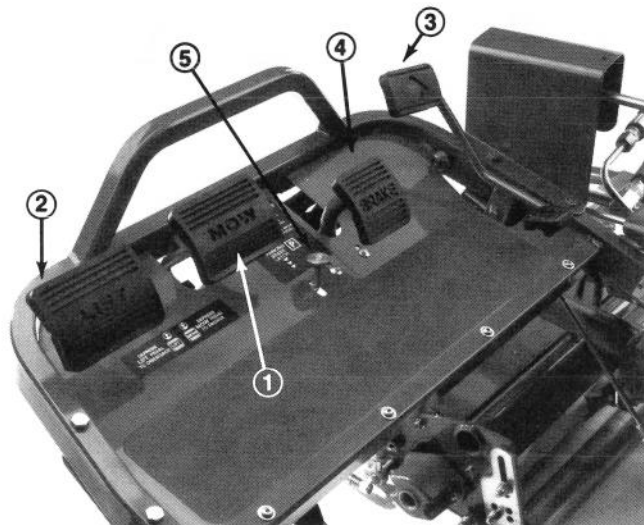
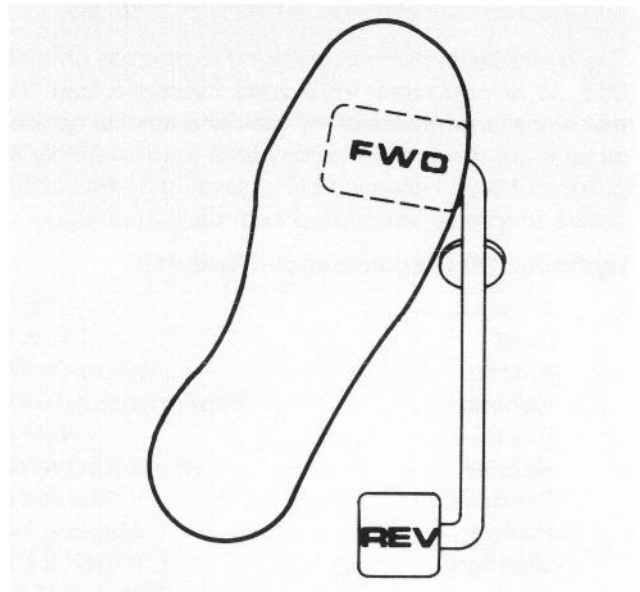

Figure 14
Figure 15
**MOW PEDAL** (Fig. 14) – Depressing Mow Pedal FULLY during operation lowers the cutting units and starts the reels. The Mow Pedal will stay depressed due to detent action of the valve bank during operation. Operator need not hold pedal down.
**BRAKE PEDAL** (Fig.14) –The Brake Pedal actuates an automotive drum-type mechanical brake located at each traction wheel.
**LIFT PEDAL** (Fig. 14) – Depressing the Lift Pedal during operation stops the reels from turning and lifts the cutting units. Lift Pedal must be FULLY depressed until cutting units are fully raised and have stopped rotation.
**PARKING BRAKE BUTTON** (Fig. 14) – Depressing the Brake Pedal to actuate the brake assembly, then depressing the small button indicated will keep the brakes actuated for parking. Disengage by depressing the brake pedal. Form the habit of locking the parking brake before you leave the machine.
**TRACTION PEDAL** (Fig. 14) –Traction pedal has two functions; one to make the machine move forward, the other to move it backward. Depress top of pedal to move forward and bottom of pedal to move backward. For operator comfort, do not rest heel of foot on reverse, when operating forward (Fig. 15).